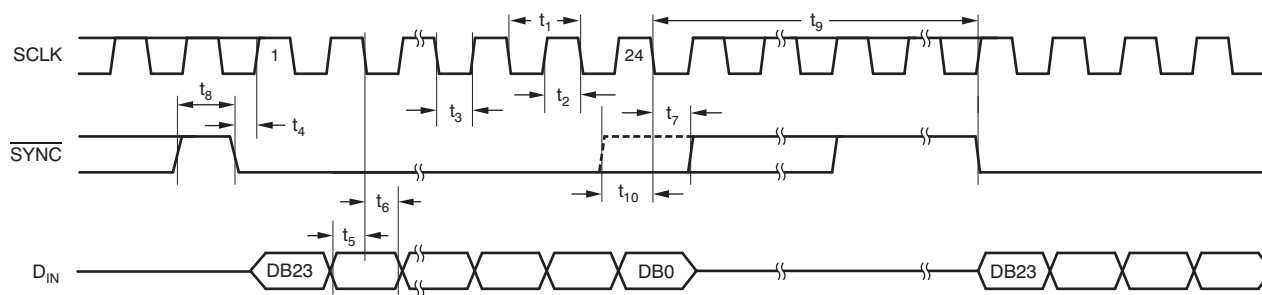

Figure 2. Serial Write Operation: 16-Bit (DAC8411)
(1) All input signals are specified with $t_R = t_F = 3\text{ ns}$ (10% to 90% of AV_{DD}) and timed from a voltage level of $(V_{\text{IL}} + V_{\text{IH}})/2$.
(2) See Figure 2 timing diagram.